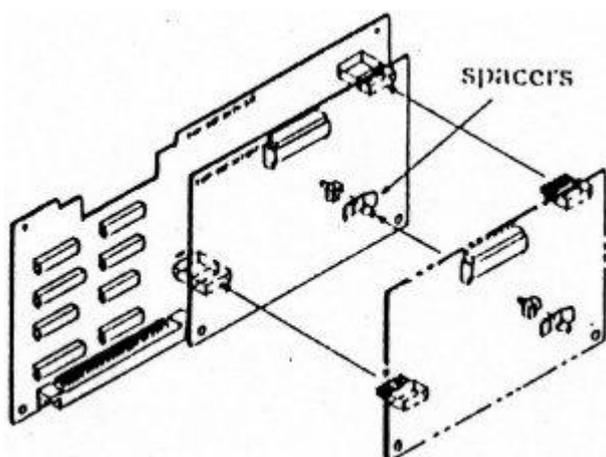

Fig.1
- (3) Using J45 (10 Pins) and J46 ( 12 Pins) on the data I/O unit and P45 and P46 on the interface unit, connect these two PCB's. In doing so, do not forget to fix pacers (plastic).(See Fig. 1.).